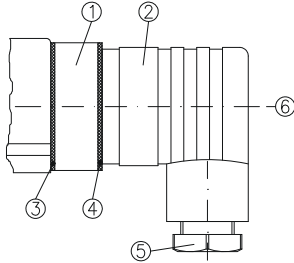

Fig. 7
- ↪ Loosen the central screw ⑥ M3x35 and disconnect the cable socket ② from the connector ① (⇒ Fig. 7). Pull the central screw ⑥ out of the cable socket ②.